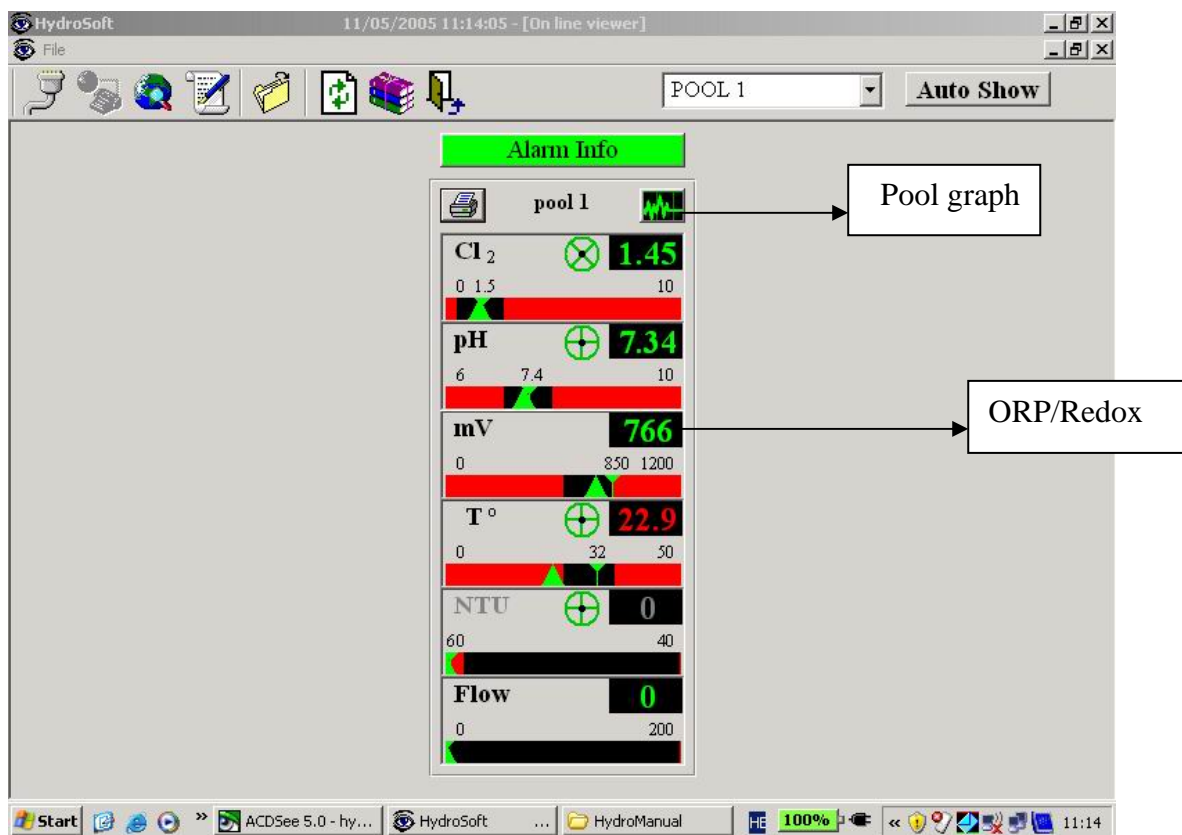

Figure 6: Pool Viewer General Overview
2. The pool(s) in the first group will appear (Figure 6)
From the Pool Viewer Window (Figure 6):